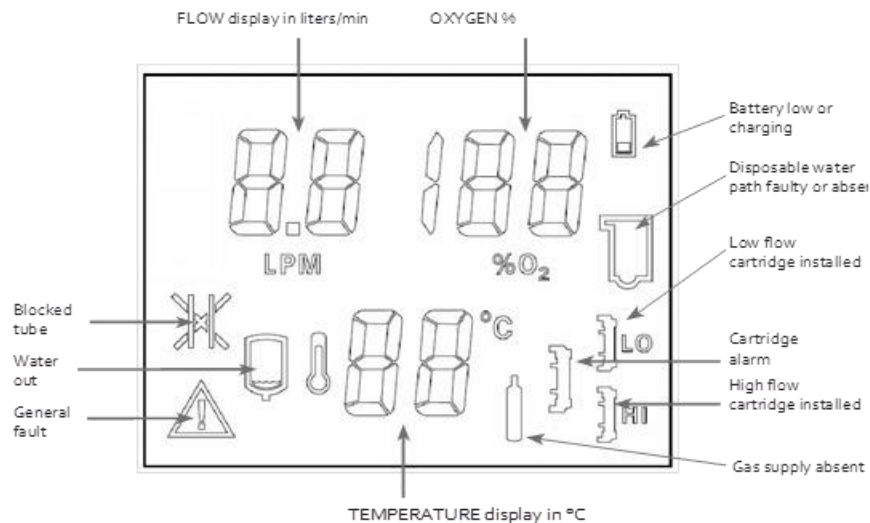

FIGURE 5.1
See Figure 5.1 for Icon Legend
4.7 Verify: <ul style="list-style-type: none"> <li>- Flow stops</li> <li>- O2% displays "--"</li> <li>- LPM displays 0.5 L/min</li> <li>- Medium priority alarm sounds</li> <li>- The gas tank icon flashes.</li> </ul> See Figure 5.1 for icon legend
4.9 Verify: <ul style="list-style-type: none"> <li>- The alarm clears</li> <li>- Flow and O2% are restored</li> <li>- The gas tank icon goes dark</li> </ul> See Figure 5.1 for icon legend
4.13 Verify: <ul style="list-style-type: none"> <li>- Flow stops</li> <li>- O2% displays "--"</li> <li>- LPM displays 0.5 L/min</li> <li>- Medium priority alarm sounds</li> <li>- The gas tank icon flashes.</li> </ul> See image in 4.7. and Figure 5.1 for icon legend
4.15 Verify: <ul style="list-style-type: none"> <li>- The alarm clears</li> <li>- Flow and O2% are restored</li> <li>- The gas tank icon goes dark</li> </ul> See Figure 5.1 for icon legend
<p>5.7 Verify:</p> <ul style="list-style-type: none"> <li>- Flow stops</li> <li>- The Medium priority alarm sounds</li> <li>- The occluded tube icon flashes.</li> </ul> <p>See Figure 5.1 for icon legend</p> <p>The precision Flow will attempt to restore flow every 3 seconds after an occlusion is detected. Remove the occlusion to avoid consecutive alarms.</p>